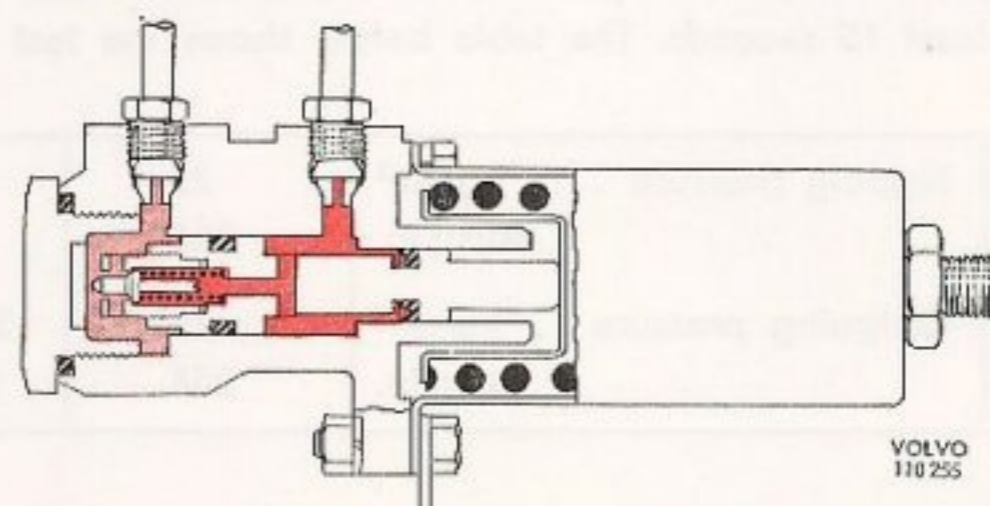

Fig. 3. Reducing action.
When the hydraulic pressure approaches 30 kg/cm² (430 lb/sq.in.), the spring pressure is overcome and the piston (15) is moved to the right. By means of pressure from the smaller spring (17), the valve (18) closes off the connection between the two cylinders and forms two separate systems, one for the front wheels and one for the rear wheels. With a continued increase in pressure in the master cylinder and front wheel cylinders, the hydraulic force in cylinder (5) will move the piston to the left so that the valve rod comes up against its stop and opens the valve, whereby the pressure in cylinder (2) increases. Due to the larger pressure surface in this cylinder, the piston is moved to the right again and the valve closes. In this way the piston assumes a position of balance and the outgoing pressure from the brake valve will be lower than the ingoing pressure, see Fig. 3. The difference in these pressures is determined by the different areas and spring force.